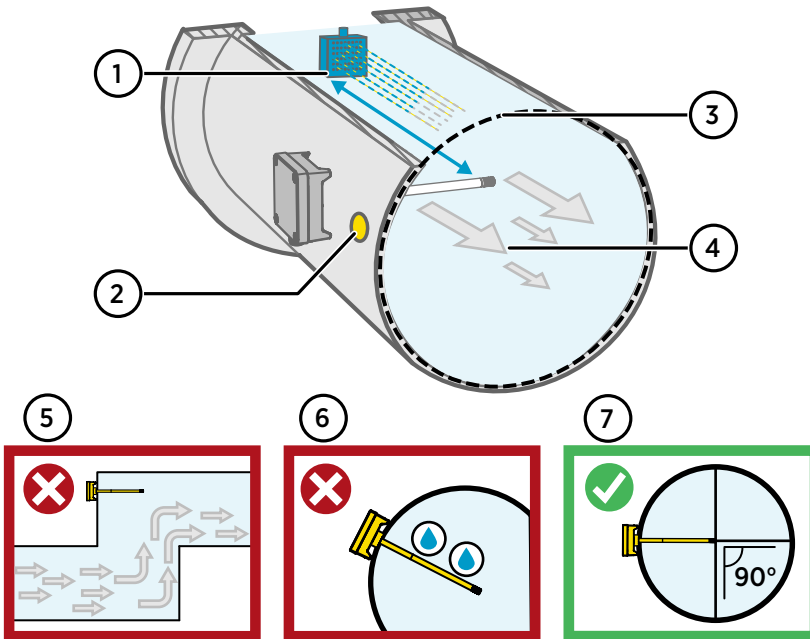

Figure 9 Duct Installation Overview
4. Optional: Drill a second hole for reference measurements approximately 30 cm (12 in) from the transmitter installation hole. See Figure 9 \(page 14\).
- ▶ 1. Insert the reference transmitter into the measurement environment next to the transmitter that you are adjusting. The reference transmitter should be inserted approximately 30 cm (12 in) from the HMD60 probe's installation hole, towards the direction of the air flow. See Figure 9 \(page 14\).